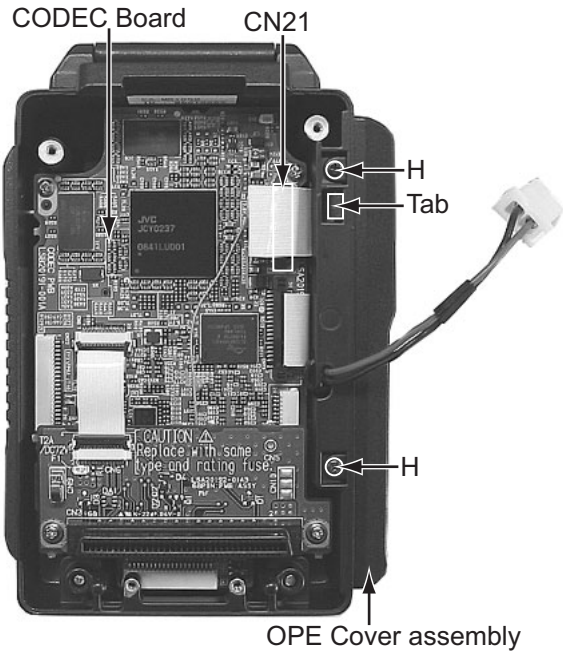
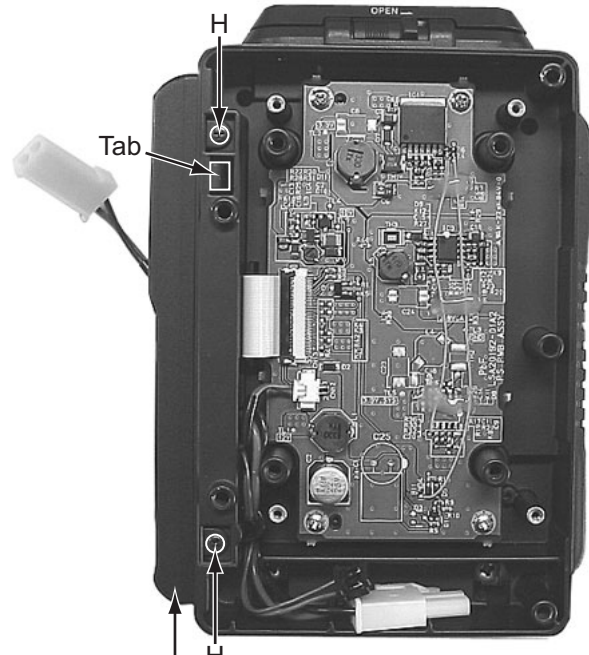
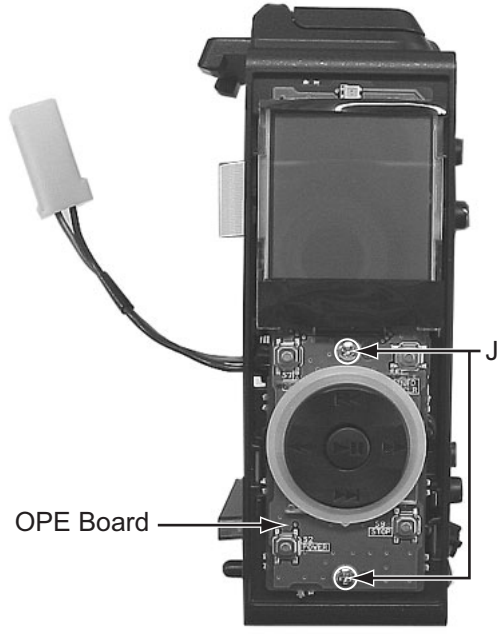
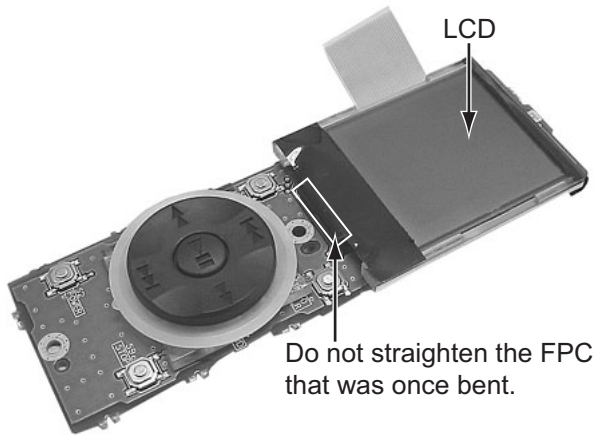

Fig.10
Fig.11
Fig.12
Fig.13
3.1.4 Removing the OPE board (See figure 10, figure 11, figure 12, figure 13)